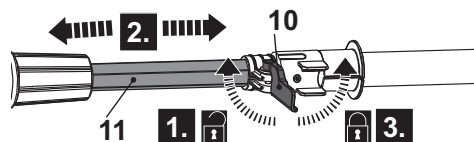

Fig. 23
- Loosen the locking lever (10) (Fig. 23, step 1).
- Adjust to the required length by pulling out or pushing in the pole extension (11) (Fig. 23, step 2).
- Secure the position of pole extension (11) by fastening the locking lever (10) back to its original position (Fig. 23, step 3).